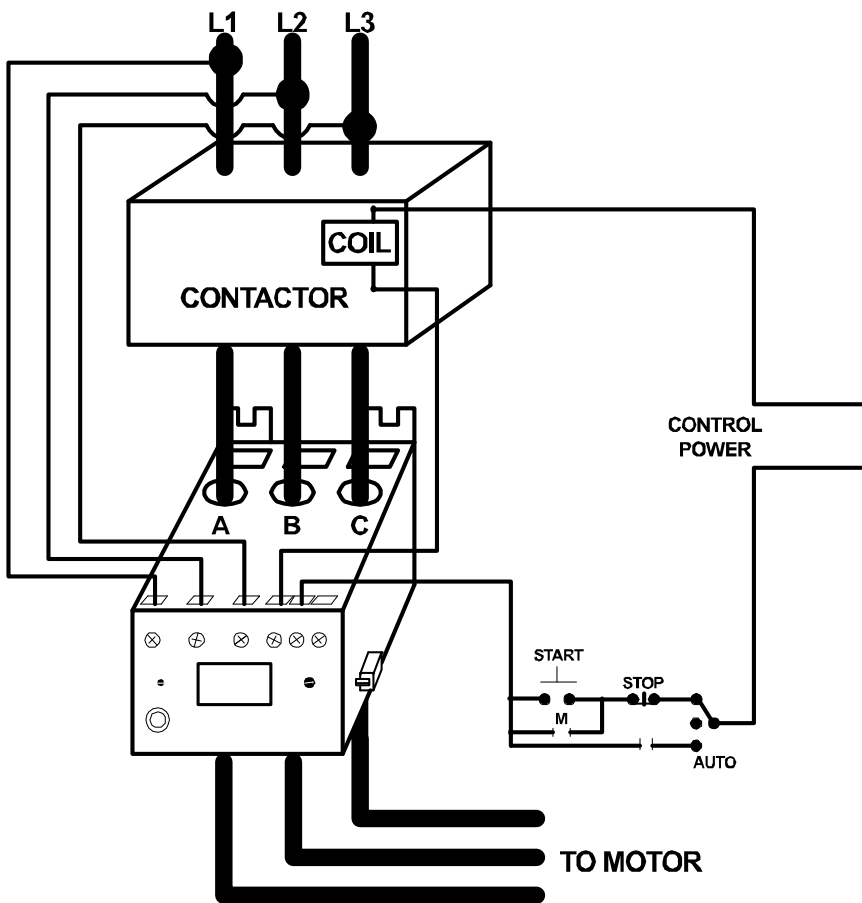

Figure 1: Typical Wiring Diagram
3. a) For amperages from 20-90 amps, insert the motor conductors through the holes marked A, B, and C. Ensure the motor phase conductors correspond with the round hole designations, i.e. the A phase conductor should go through the round hole marked "A". See Figure 1 for a typical wiring diagram.
- 5. Connect the control circuit wires to the appropriate terminals. The relay is designed for fail-safe operation; the NO (normally open) contact should be in series with the coil on the contactor for motor control (see Figure 1). For alarm circuits, the NC (normally closed) contact is in series with the alarm circuitry.